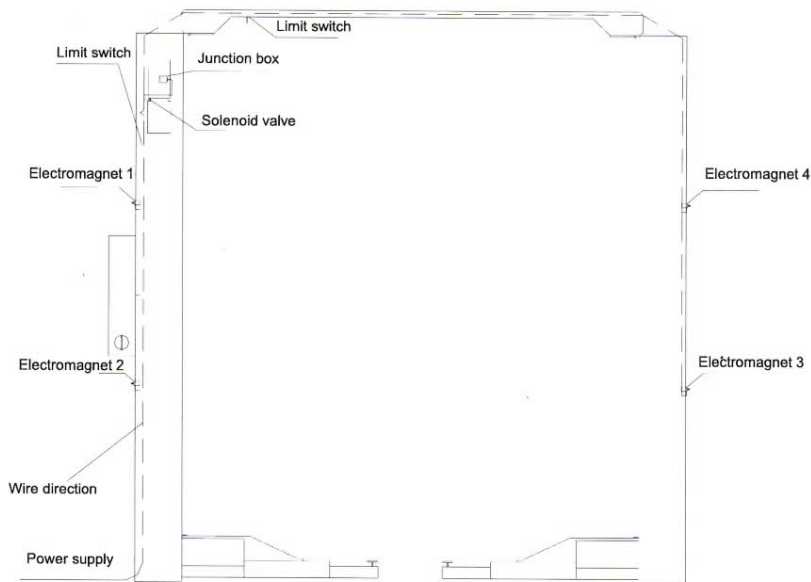

Fig. 13
- Connect the electrical wiring as shown in Fig. 13.